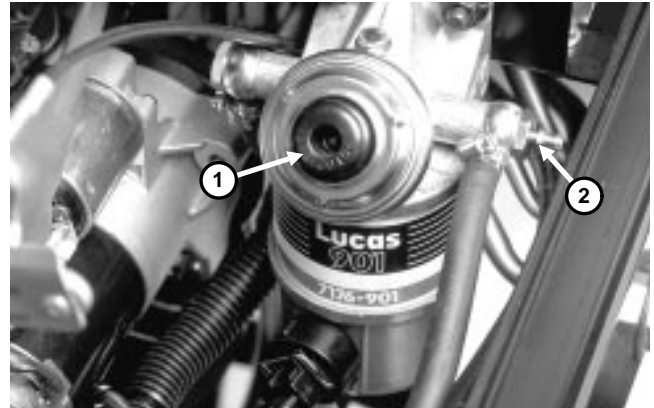

Figure 38
3. Install a 3/16" hose over bleed screw. Put other end of hose into a container to catch fuel (Fig. 38).